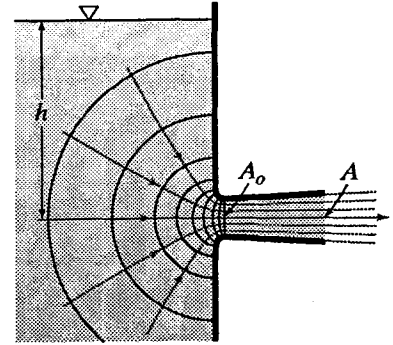

Figure X11.6.5
11.6.7 For the rounded entrance and tube flowing full as in Fig. X11.6.5, $C_c = 1.0$ for both the throat and the exit, and thus $C_v = C_d$ for both sections. For the throat, assume the value of C_v as given for Fig. 11.16a, and assume that for the tube as a whole the discharge coefficient applied to the exit end is 0.72. Find the velocity at the throat and the pressure head at the throat if $h = 6$ ft. Compare your answer with Exer. 11.6.5, which neglected friction.